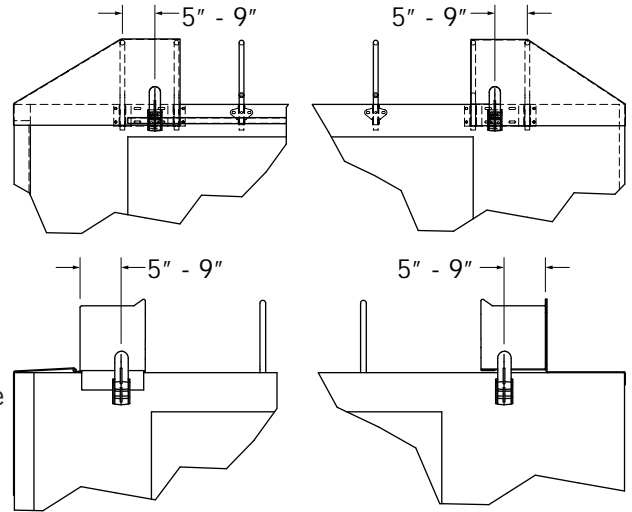

Figure 52
1) Figure 52 & 53. Locate first roll stop bracket 5"-9" from the first bow and 1" down from top rail.
2) Figure 52 & 53. Drill a pilot hole and attach with 3/8 x 1 type F HWH bolts.
2) Figure 52 & 53. Locate roll stops the same distance from the bows as in step 1 and 1" from top of sideboard.